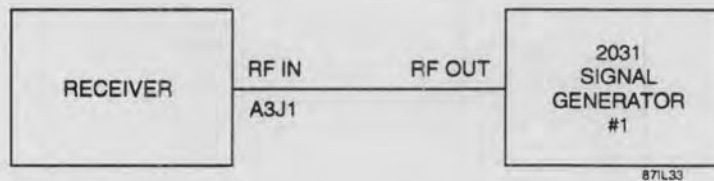

Figure 7-2. Front Panel Test Equipment Connections
1. Connect the HF-1000 Receiver and test equipment as illustrated in **Figure 7-2**.